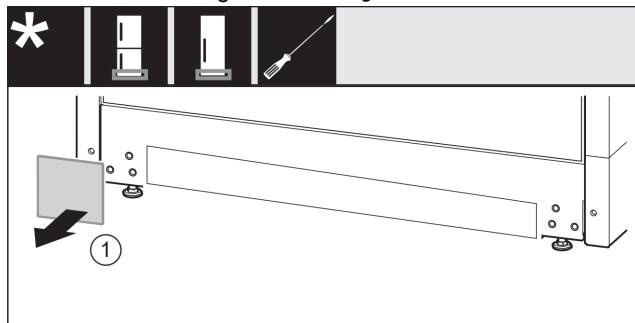

Fig. 15
- Take off the cover. *Fig. 15 (1)*